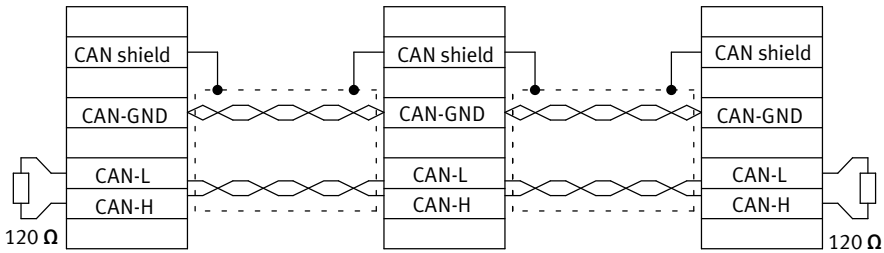

Fig. 2.1 Cabling example
- The individual nodes of the network are connected point-to-point to each other, so the CAN cable is looped from controller to controller (→ Fig. 2.1).